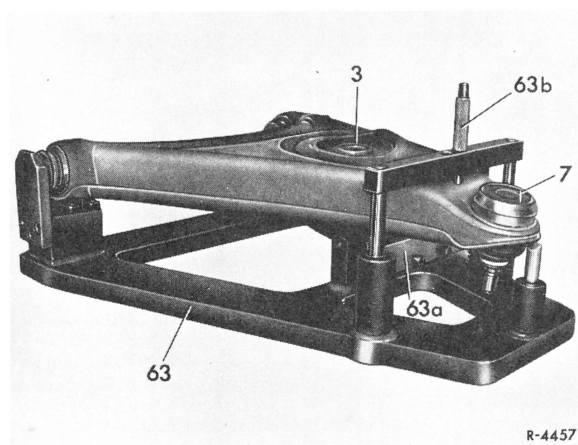

Fig. 1
1 To check for bending and non-parallelity, place the complete control arm with rubber mounts in the special device (63) (Fig. 1).